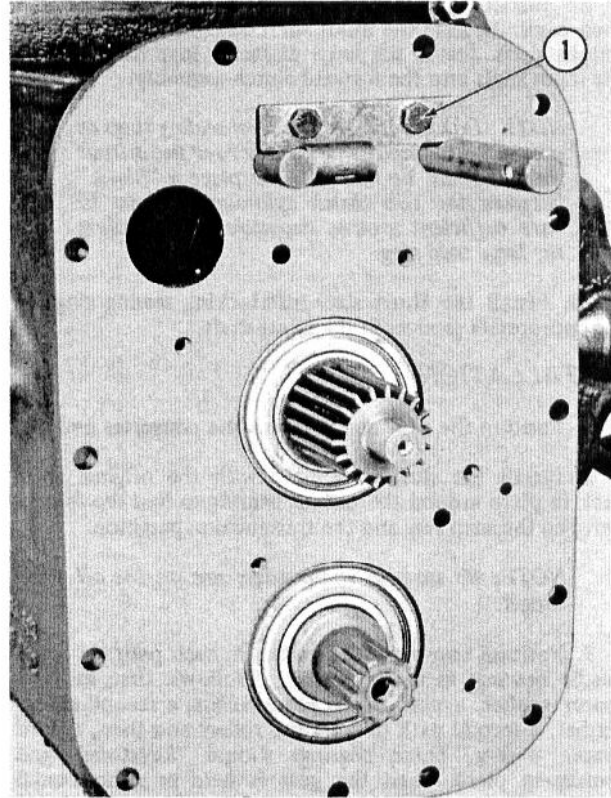

Fig. 55 — Removing Shift Rail Stop
c. Shift rail stop from rear of transmission housing. See Fig. 55.